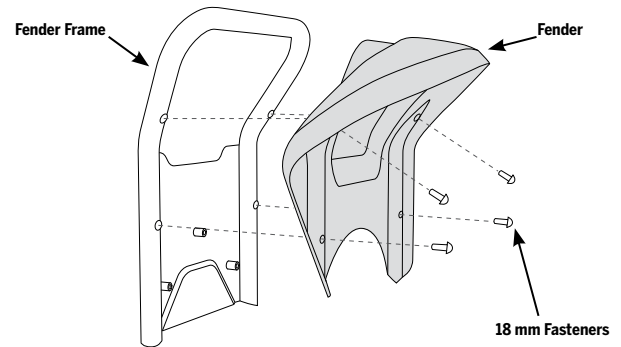

Figure 73: Remove the Fender from the Fender Frame
4. To remove the Fender from the Fender Frame, remove the four 18 mm fasteners using a 4 mm hex wrench (see **Figure 73**).